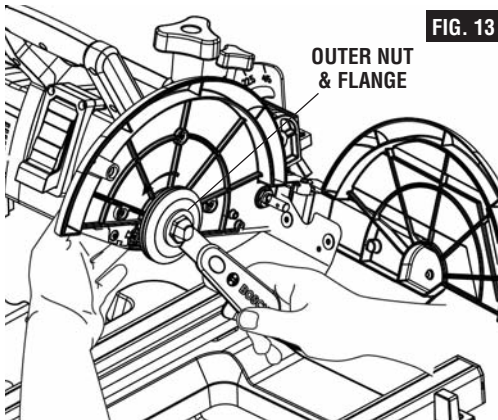

FIG. 13
2. To loosen the blade, press the spindle lock with one hand (Fig. 12), and, with the other hand, use the nut wrench (supplied) to turn the shaft nut counterclockwise (Fig. 13).
3. Remove the outer nut and the outer flange. Remove the old blade. Leave the inner flange on the blade shaft (Fig. 13 & 14).